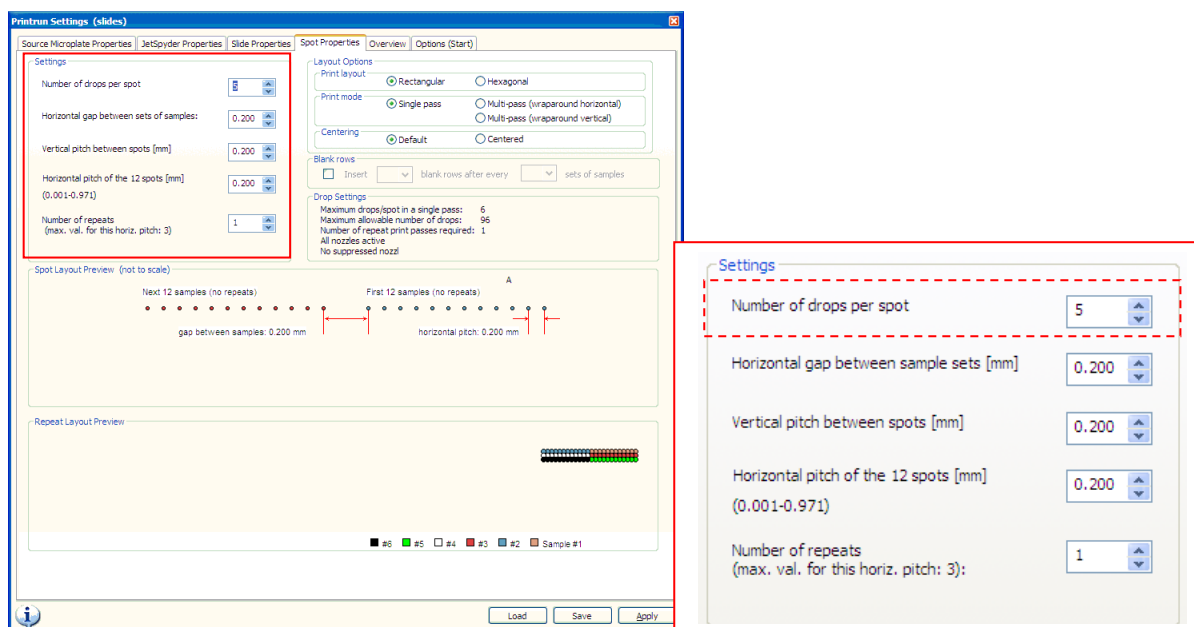

Figure 6-7 Increasing the number of drops per spot in the Spot Properties tab
- To print bigger spots, **increase** the number of drops per spot in the **Settings** group box (**Figure 6-7**):